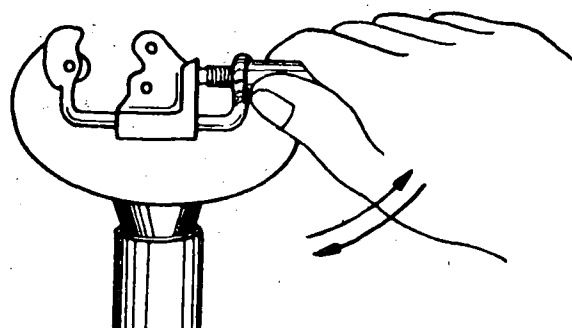

Fig. 2
- c) Remove any burrs from the tubing (fig. 2).